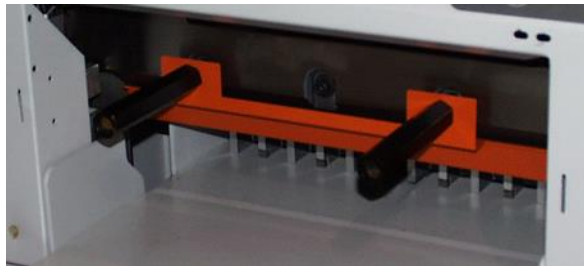

Figure 14
3. Remove the knife bolts from the two slotted knife bar holes and replace with the knife lifter assembly (Figure 14). Tighten the lifters to hold the knife in place, and then remove the remaining knife bolts.